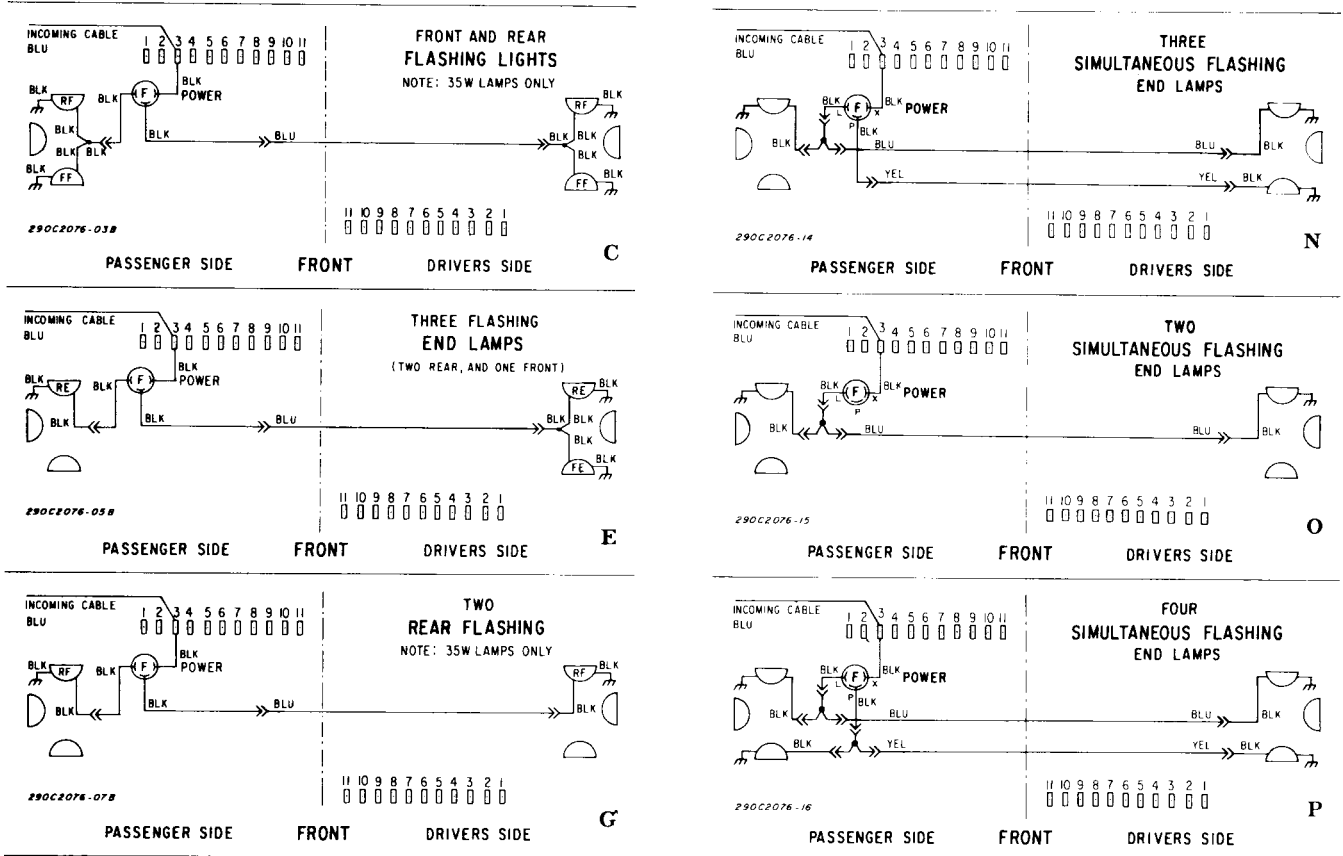

Figure 3.
2. Connect the ground wire and lamp wire as shown in figure 3. When installing the lamp, do not touch glass portion. If glass end has been handled, it should be carefully cleaned with a grease solvent.